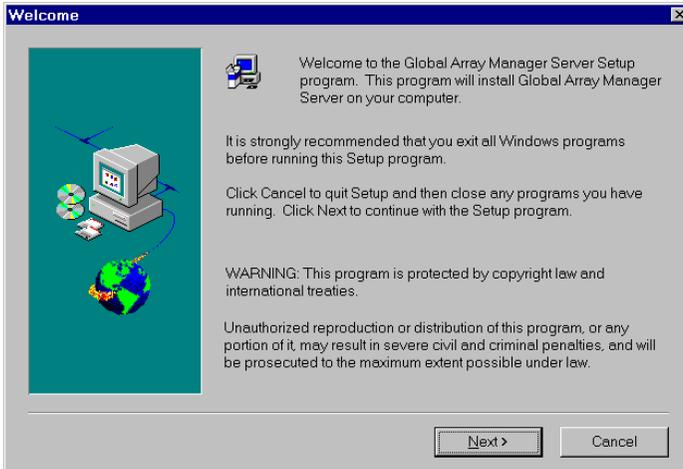

Figure 3-20. Welcome Dialog Box
5. After the installation wizard is loaded, the Welcome dialog box appears (Figure 3-20). Click Next to proceed with the installation, or click Cancel to end the installation procedure and return to Windows NT.